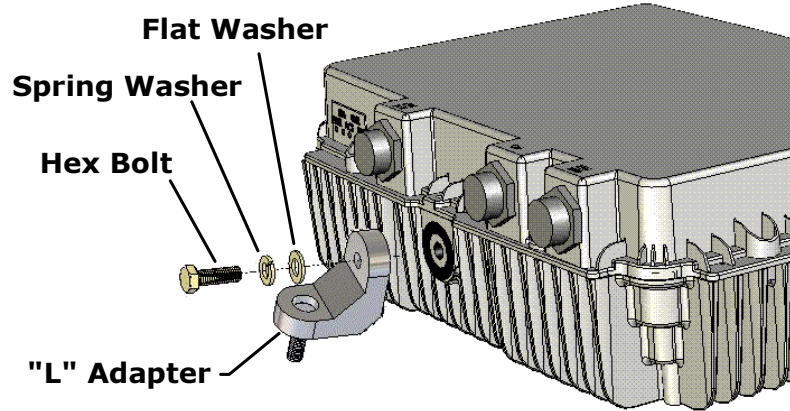

Figure 1: Mount 'L' Assembly
- Attach the 'L' adaptor to the MBW 3100 using an M8x25 hex bolt [G], a spring washer [I], and a flat washer [H], as illustrated in Figure 1.
- Attach the 'T' adaptor to the MBW 3100 using an M8x25 hex bolt [G], a spring washer [I], and a flat washer [H], as illustrated in Figure 1.